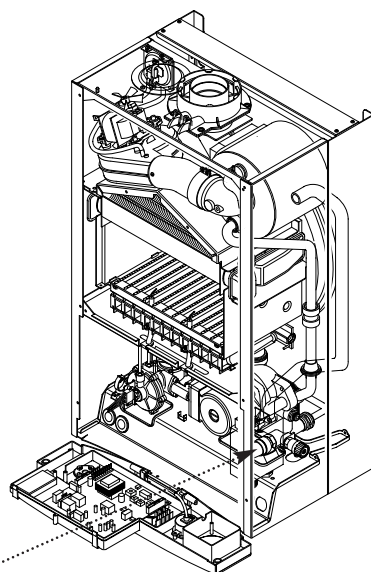

Fig. 33
10.5 Fitting the Safety Pressure Relief Discharge Pipe (Fig. 33)